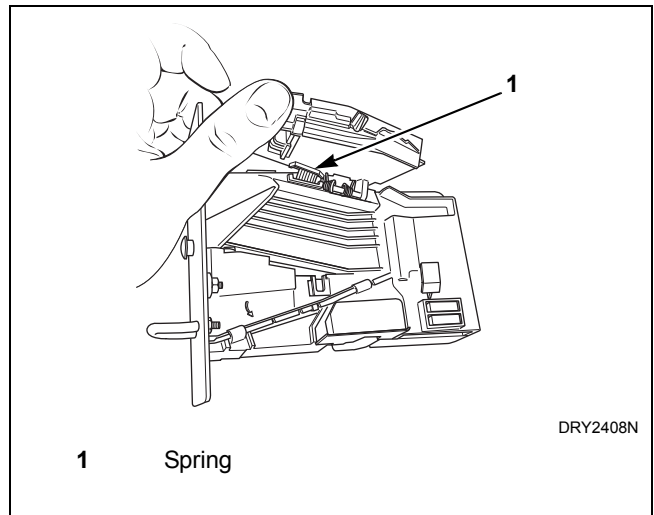

Figure 5
c. Open cover of coin drop. Refer to *Figure 5*.